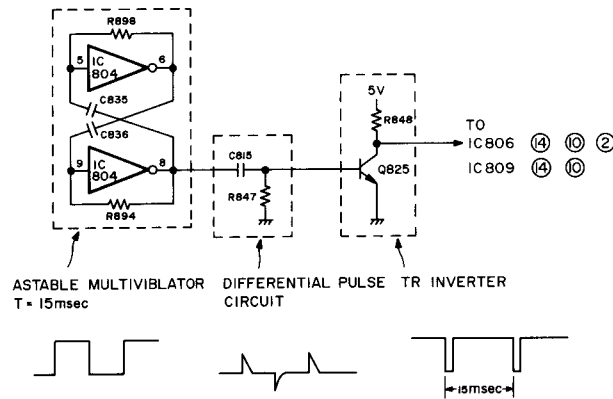

Figure 42-1
5.3.3 Reset Pulse Oscillator (Refer to Figure 42-1)